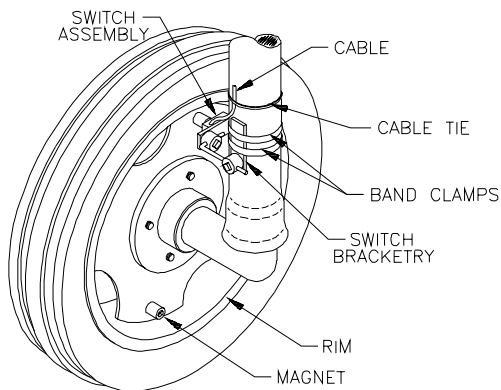

FIGURE 15A
- 3) Mount the four magnets to inside of rim and tighten. (See Figures 15A, 15B, & 15C). Magnets must be mounted in alternating red-black order.
- 4) Mount switch assembly to stationary column with the hardware provided. (See Figure 15A). The switch assembly need not pivot with the wheel.
- 5) Position switch assembly so that as the wheel rotates the magnets pass across the center of the black, molded switch assembly. (See Figures 15A & 15C).